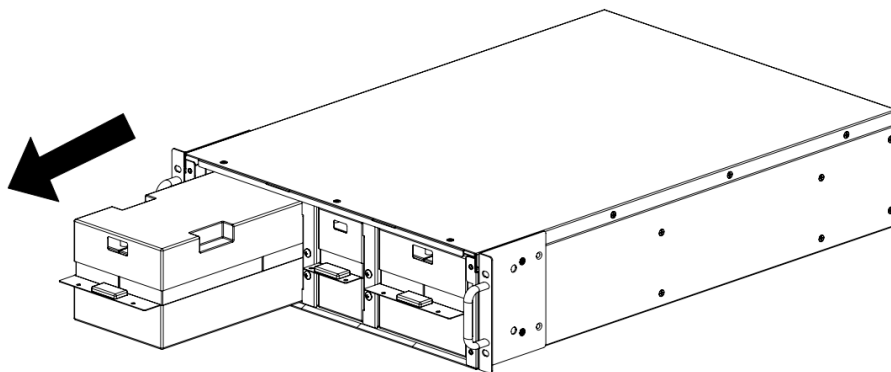

Figure 32: Remove Battery Cartridges from EBP
24. Refer to the handling instruction, take out all three battery cartridges (see Figure 32). Two larger battery cartridges and one smaller battery cartridge.